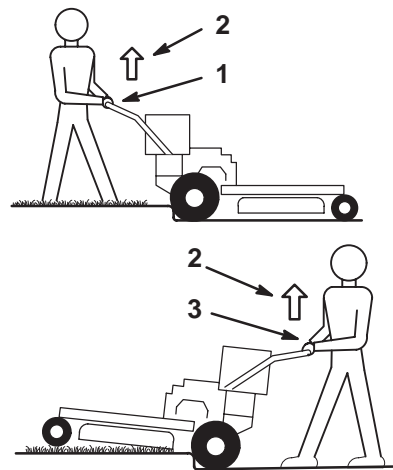

Figure 20
3. Drive machine until the castor wheels contact curb (Fig. 20).
4. Lift the front of the machine by pushing down on the handle (Fig. 20).
5. Drive machine until drive wheels contact curb (Fig. 20).
6. Lower the front of the machine (Fig. 20).
3. Drive the machine until drive wheels contact curb (Fig. 20).